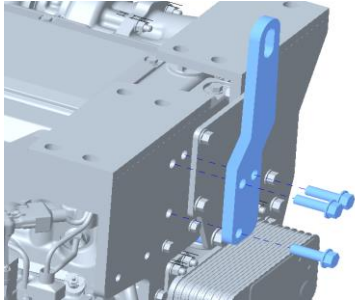

Figure 8
7. Install the engine lifting eye, flywheel side (16) on the ATD mount bracket (8) using M12X40 bolts (25) as shown in the figure 8.